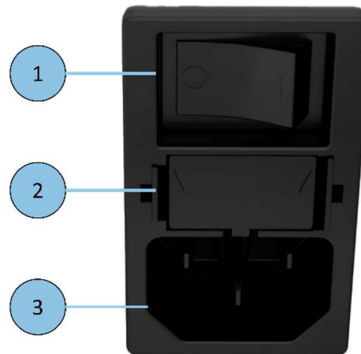

Figure 3-7 Power Input Panel.
1. Flip the Power Switch (*Figure 3-7*) to its ON state, indicated by the “I”.